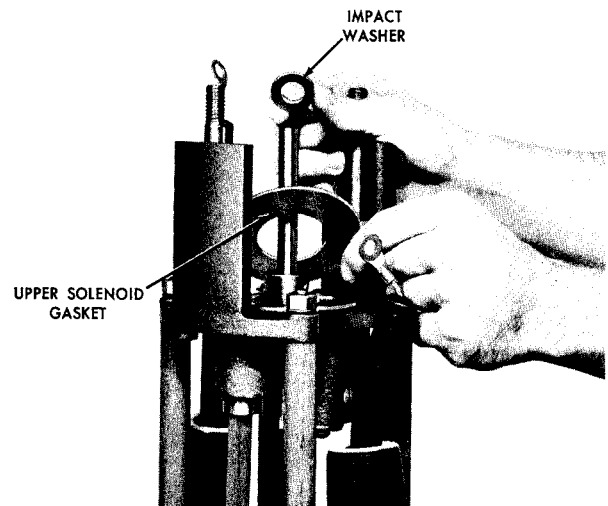

Figure 6. Removing upper solenoid gasket
6. Remove upper solenoid gasket and impact washer as shown in Figure 6. Whenever the coil is removed, upper and lower solenoid gaskets must be replaced to maintain proper timing characteristics.